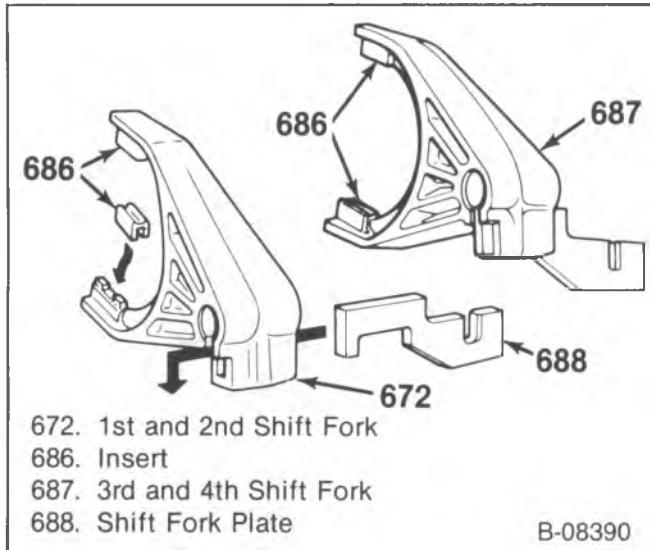
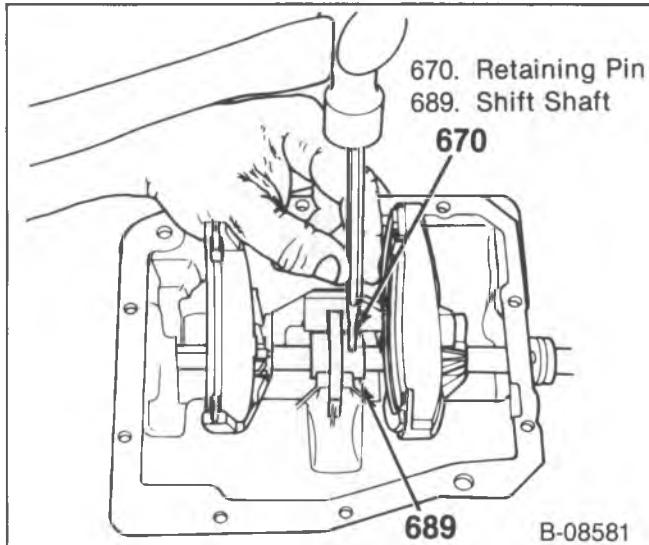

Figure 31—Shift Forks and Selector Plates
Figure 32—Removing the Shift Shaft Retaining Pin
- Turn the shift shaft (685) until the selector arm (689) is disengaged from the fork plates (688).
- Drive the retaining pin out of the selector arm (689) (figure 31).
- Remove the shift shaft (685).
- Pry the oil seal (602) out.
1. Install a new shift shaft plug (673), if needed.
2. Fit the inserts (686) and the fork plates (688) into the shift forks (figure 31).
3. 1st and 2nd (largest) shift fork (672).
- Hold the shift fork in the cover with the fork offset to the rear (figure 32).
4. Selector arm (689) and the interlock plate (671).
- The shift arm retaining pin hole must be away from the cover and to the rear (figure 32).
5. 3rd and 4th shift fork (687).
- Hold the shift fork in the cover with fork offset to the rear (figure 32).
7. Drive a new retaining pin (670) into the selector arm and the shift shaft.
8. Install a new oil seal (602).